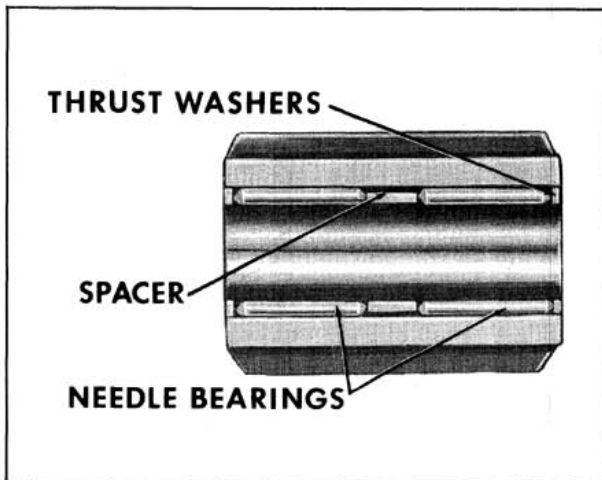
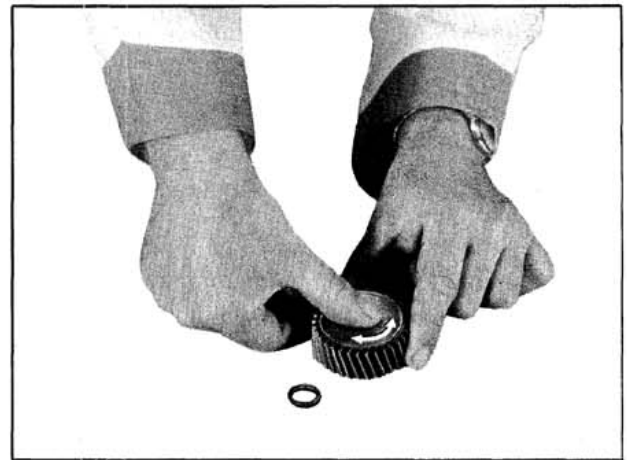
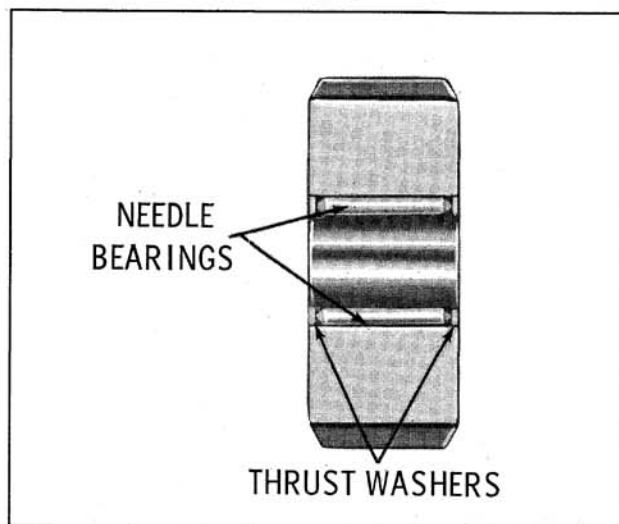

Fig. 6-466 Long Pinion Gear
Fig. 6-467 Locking Needle Bearings
Fig. 6-474 Short Pinion Gear
4. Install needle bearings, thrust washers and spacers. (Fig. 6-466) Refer to Figs. 6-467 and 6-468 and lock the needle bearings. On the long pinion, it will be necessary to lock both sets of needle bearings.
10. Install 20 needle bearings and thrust washers. (Fig. 6-474) Lock needle bearings as shown in Fig. 6-467.